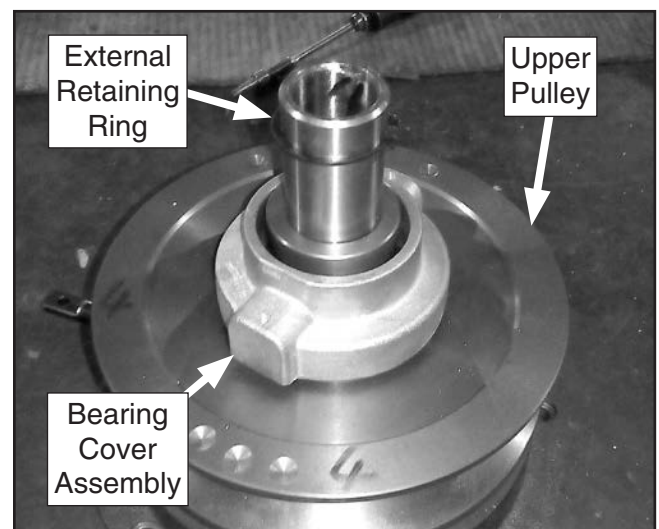

Figure 103. Brake bracket and pulley components removed for disassembly.
10. Remove external retaining ring and bearing cover assembly from brake bracket/pulley assembly (see **Figure 103**), then remove upper pulley.